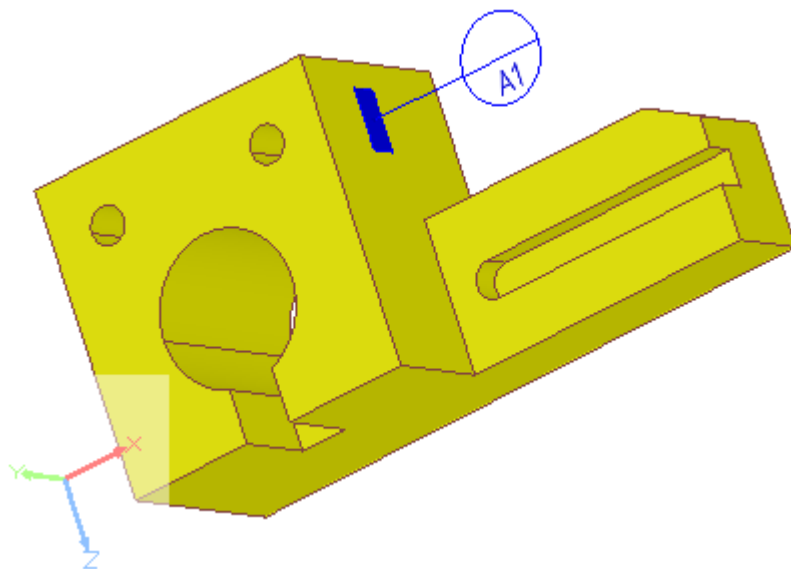

Figure 5. Datum target rectangle with leader line and symbol
-  **Rectangle Datum Target** - to open the Create Target Rectangle Wizard. The Figure 5 displays, how the created datum target (rectangle) is presented on the geometry model in the  **3D View**.